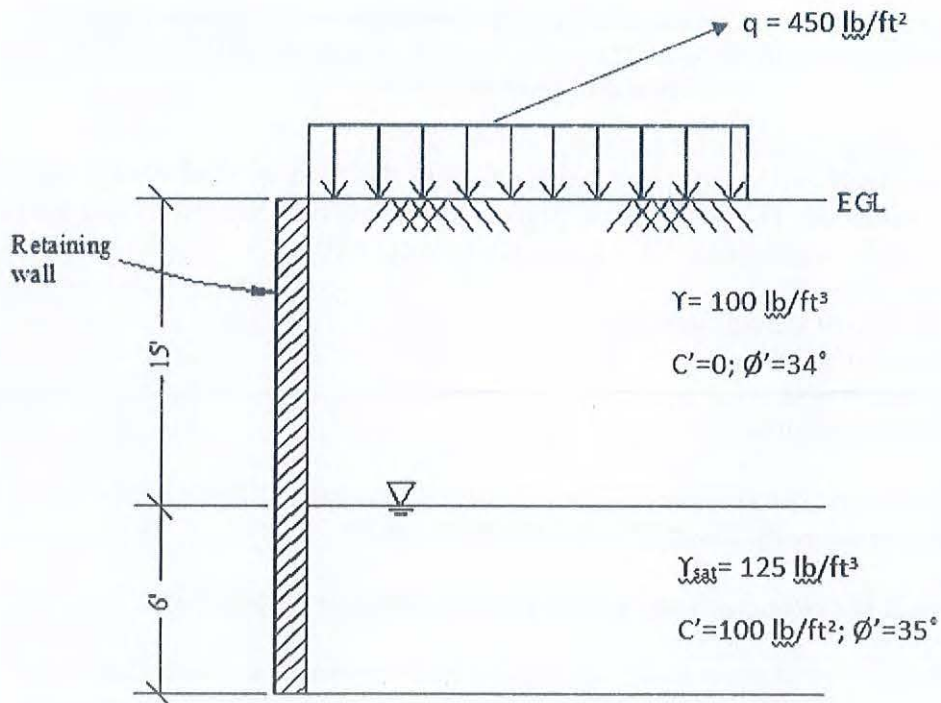

Fig. 3
- b) For the retaining wall shown in Fig.3, determine the total force per unit length of the wall for Rankine's Passive state. Also find the location of the total passive force. (10)